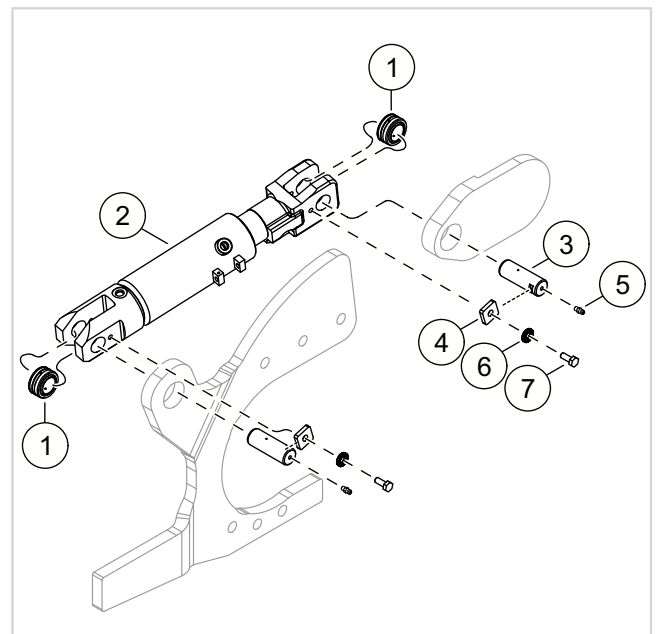

Fig. 4 (34444)
3. See Figure 4. Remove the screws (7) and wedge washer (6) from the block (4) that secures the tilt cylinder (2) to the mast and power unit.